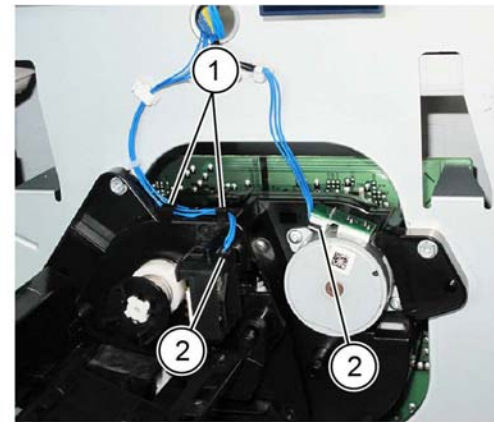

Figure 2 Preparation
7. Prepare to remove the dispenser pipe unit, Figure 2:
- a. Release the wire harness (1).
- b. Disconnect the connectors (2).